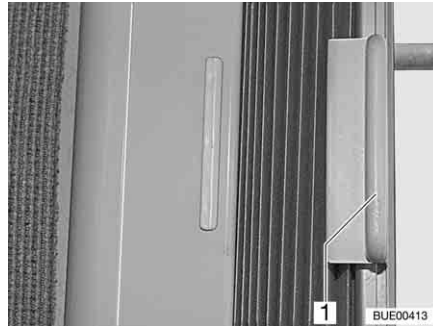

Fig. 24 Roman shade
- Grasp the handle (Fig. 24,1) of the Roman shade and slide to the left or the right.